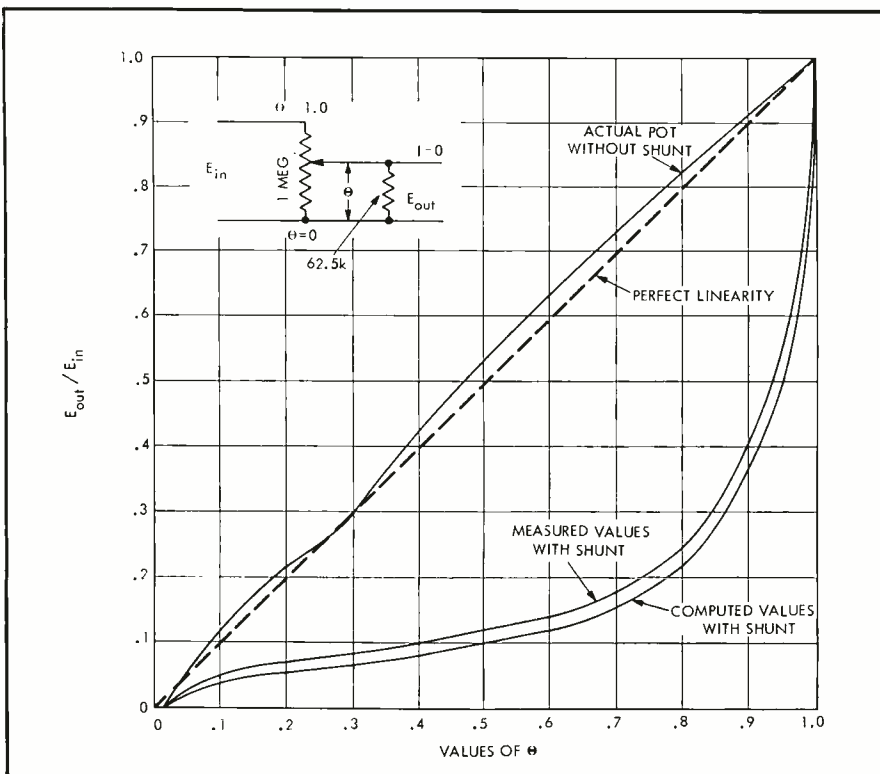

Fig. 4. Computed and measured values for 1 meg pot with shunt of 62,500 ohms.
Computed and measured values, using a 1-meg pot (Ohmite CU 1052) and a fixed shunt of 62,500 ohms, are shown in Fig. 4. Characteristics of the potentiometer alone, a stock item picked at random from the shelf, are shown in this figure also. As a general rule, with most stock potentiometers, the values below $\theta = .1$ and above $\theta = .9$, will be of little use, because of "end effects." If, by mischance, the wrong equation is picked, (say Eq. (15) in place of Eq. (9) here), the determined value of N will be negative, immediately pinpointing the error.